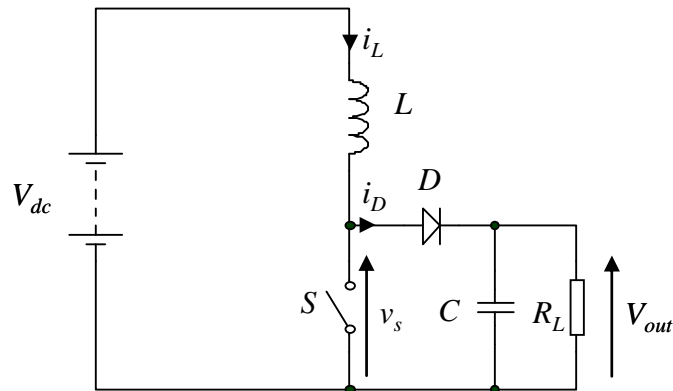

Figure 5
5. The boost (step-up) converter shown in Figure 5 is designed to provide an output voltage $V_{out}=200\text{V}$ DC from a 5V DC input source suitable for driving a radiation detector.